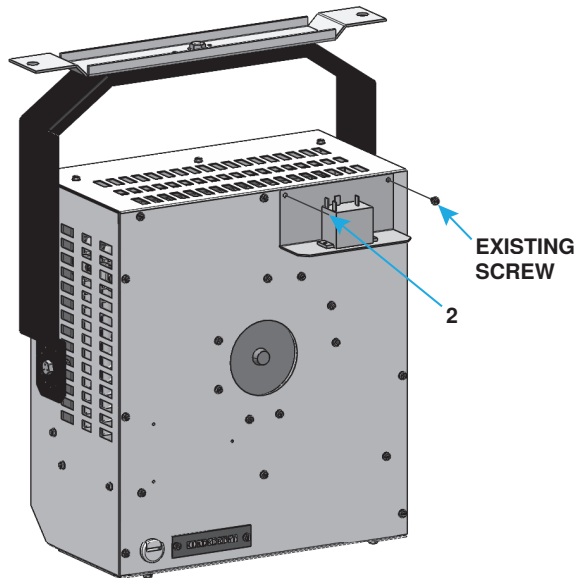

Figure 4. Relay Installation—Model EUHC (Refer to Table 2)
- b. For electric unit heater model EUHC (see Figure 4):
- (1) At rear of heater, remove and save existing screw shown.
- (2) Secure relay assembly (1) as shown using existing screw and screw (2).